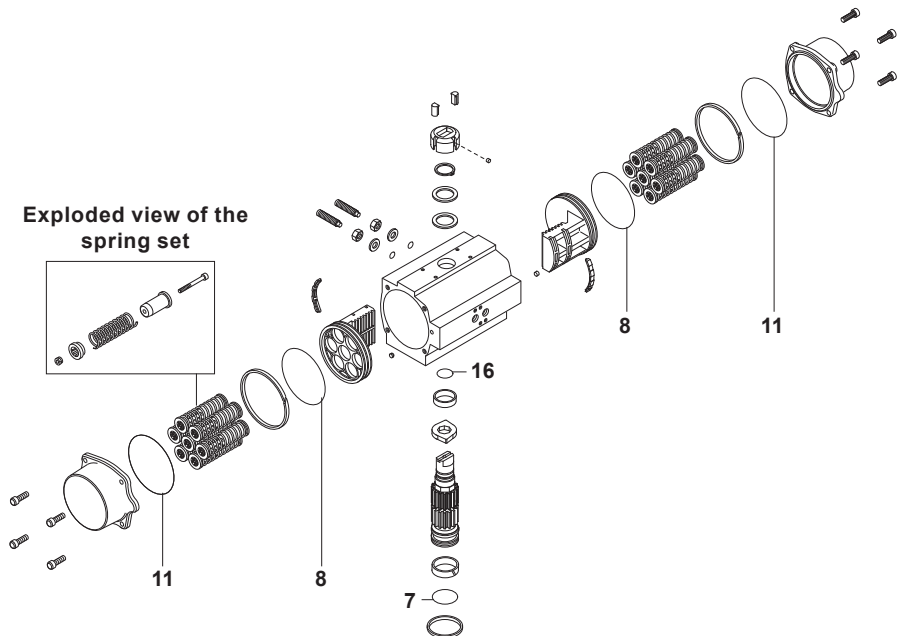

Fig. 6 BVA300 series shown
- Place the pinion (3) in the body (1) from underneath. Once the pinion appears through the inside of the body, assemble the pinion stop (12) in its correct position and also the upper pinion bearing (10).
- Place the soft pinion washer (15), the metallic pinion washer (14), the slip washer (13) and the position indicator (21, 22 and 27) in the upper part of the pinion.
- Assemble both pistons, checking that they engage at the same time when turning the pinion (3) clockwise for normally closed actuators and anticlockwise for normally open actuators.
- Assemble the actuator end caps (4) tighten the bolts (20) in sequence. Check that the open and closed positions coincide with the position indicated in the upper part of the pinion (see Figure 6).